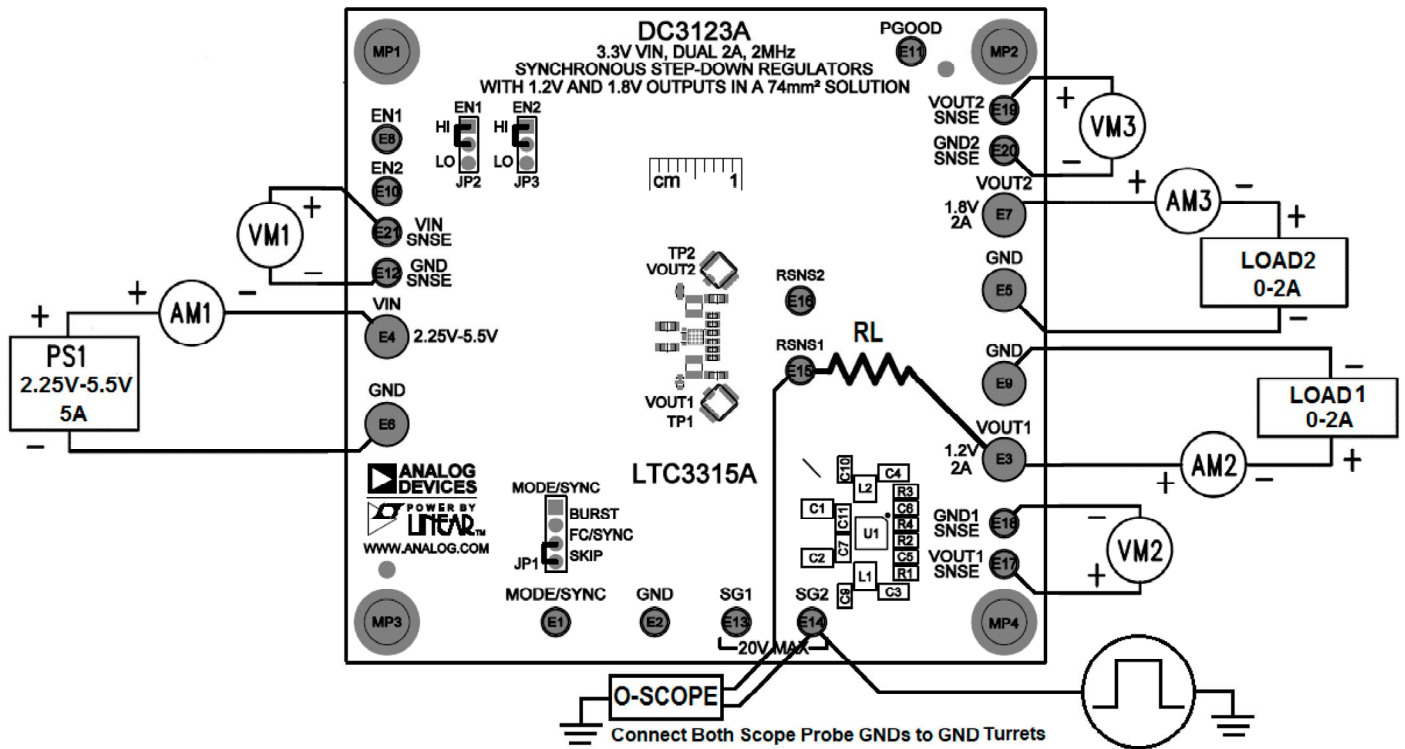
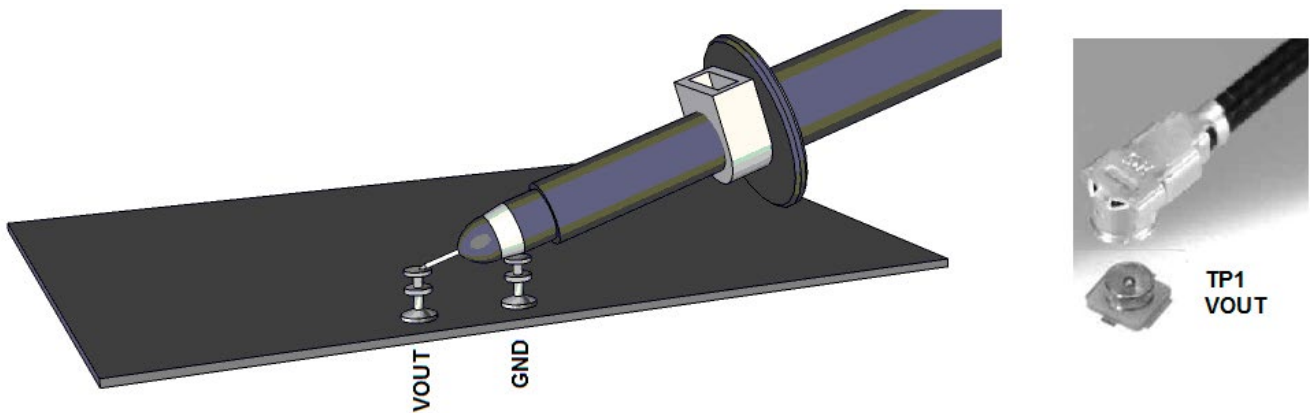

Figure 1. Proper Measurement Equipment Setup
Figure 2. Measuring Input or Output Ripple
The DC3123A is easy to set up to evaluate the performance of the LTC3315A. Refer to Figure 1 and Figure 2 for proper measurement equipment setup and follow the evaluation procedure below.
NOTE: For accurate V_{IN} , V_{OUT} and efficiency measurements, measure V_{IN} at the V_{IN} SNSE and GND SNSE turrets and V_{OUT} at the V_{OUT} SNSE and GND SNSE turrets as illustrated as VM1, VM2 and VM3 in Figure 1. When measuring the input or output voltage ripple, care must be taken to avoid a long ground lead on the oscilloscope probe.
3. With power off, connect 0V to 6V, 5A power supply, PS1, between V_{IN} and GND with a series ammeter and a voltmeter as shown in Figure 1.
5. With power off, connect a 0A to 2A load to V_{OUT1} and GND with a series ammeter and a voltmeter as shown in Figure 1.
6. Turn on LOAD1 and slowly increase from 0A to 2A and observe the output voltage. The output ripple may also be observed using an oscilloscope with the probe connected as shown in Figure 2.
NOTE: Measure the output voltage ripple by touching the probe tip directly across the output turrets or to TP1 as shown in Figure 2. TP1 is designed for a 50 Ω coax cable to reduce any high frequency noise that might couple into the oscilloscope probes.
8. With power off, connect a second 0A to 2A load to V_{OUT2} and GND with a series ammeter and a voltmeter as shown in Figure 1.
9. Turn on LOAD2 and slowly increase the from 0A to 2A and observe the output voltage. The output ripple may also be observed using an oscilloscope with the probe connected as shown in Figure 2.
15. To test the transient response with a base load, turn off LOADx (LOAD1 or LOAD2) and add the desired resistor to produce a minimum load between V_{OUTx} and RSNSx turrets (RL shown on Figure 1). Note that the total load resistance will be RL plus RSNSx (100m Ω).